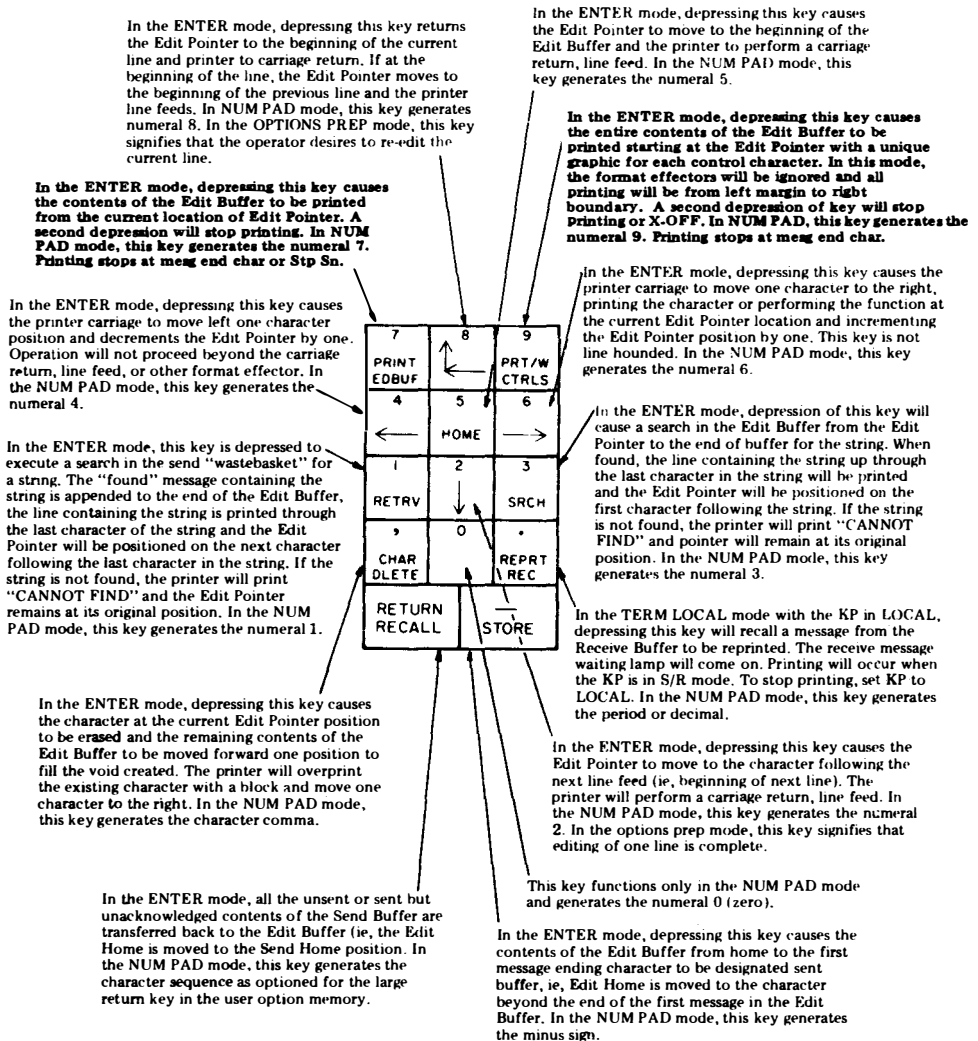

Fig. 7—Numeric/Edit Pad
4.04 The functions of the numeric/edit pad are briefly described in Fig. 7.